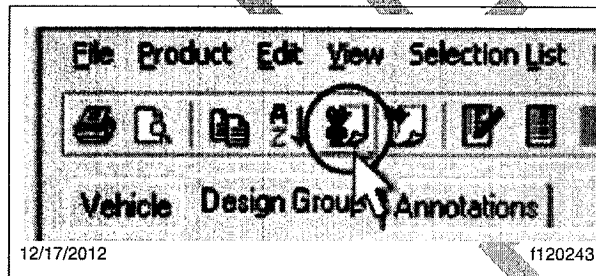

Fig. 18, Add Annotation Icon
2. In the "Design Group" tab, click the Add Annotation icon. See Fig. 18.